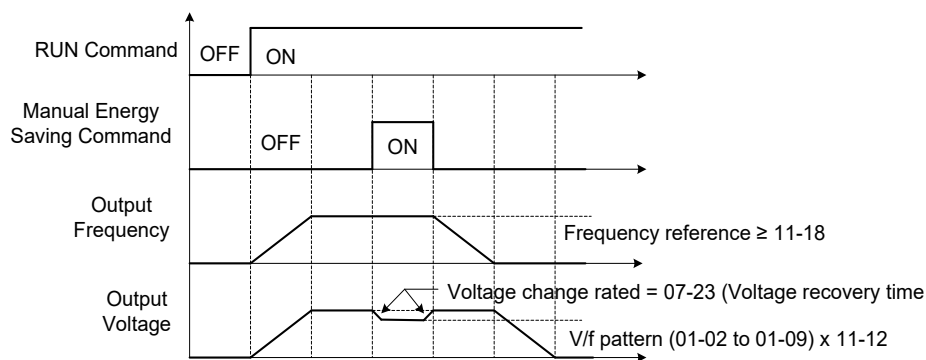

Figure 4.3.115 Manual Energy Saving Operation.
(2) Manual Energy Saving Frequency (11-18)
- When the reference frequency exceeds 11-18 and the motor speed is within the allowable range, the manual energy saving command is activated. Refer to Figure 4.3.115 Manual Energy Saving Operation.